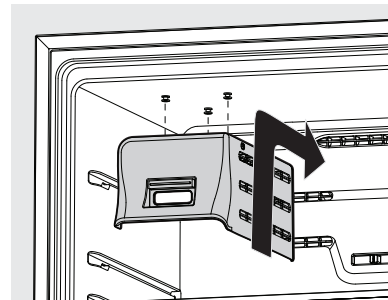

Figure 12
9. Slide the ice maker cover onto the shoulder screws on top of the unit until it locks into place with a snap. See Figure 12.